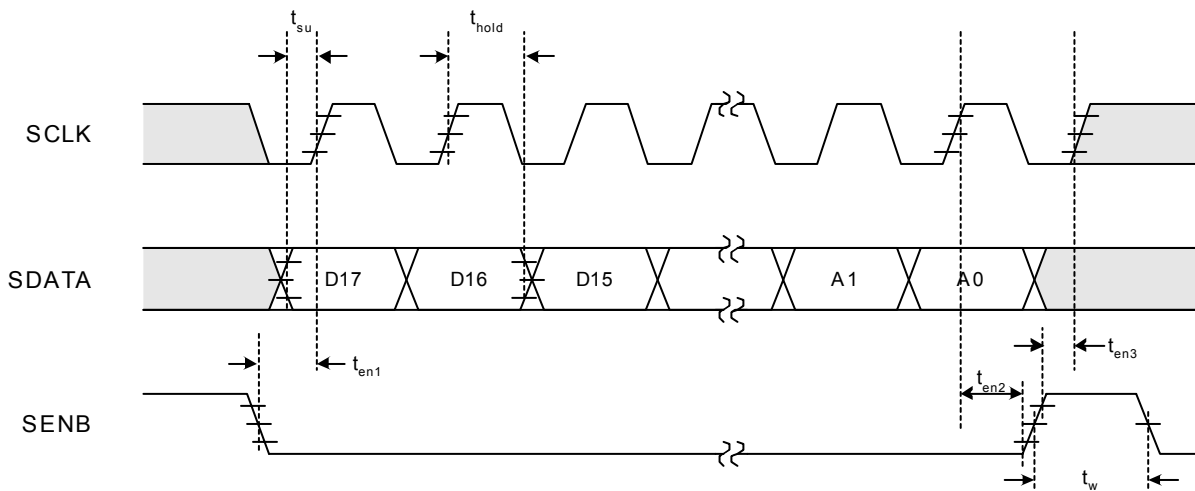
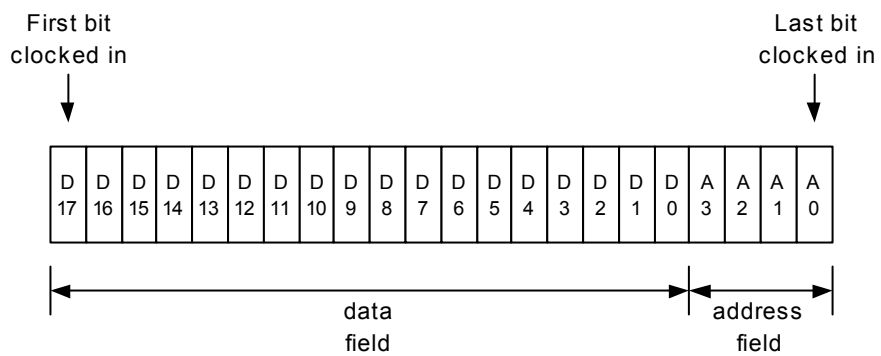

Figure 2. Serial Interface Timing Diagram
Figure 3. Serial Interface Format
2. Timing is not referenced to 50% level of the waveform. See Figure 2.
A timing diagram for the serial interface is shown in Figure 2 on page 7. Figure 3 on page 7 shows the format of the serial interface.